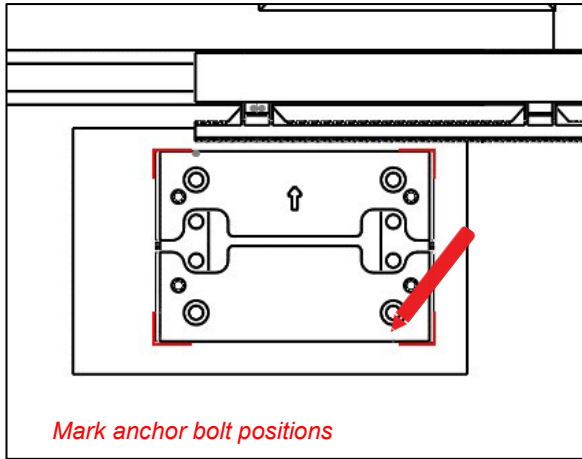

Fig 5
- Remove the rubber grommet below the spring limit switch (as per fig 5).